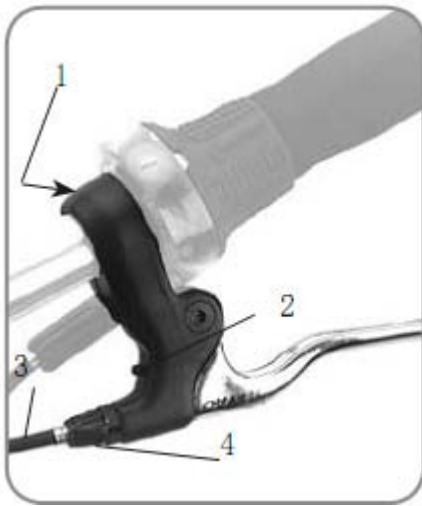

Figure 6 Lever clamp bolt, mountain lever
1. Locate the lever clamp bolt (Figure 6).